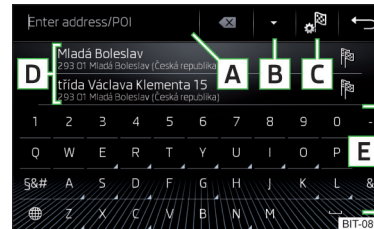
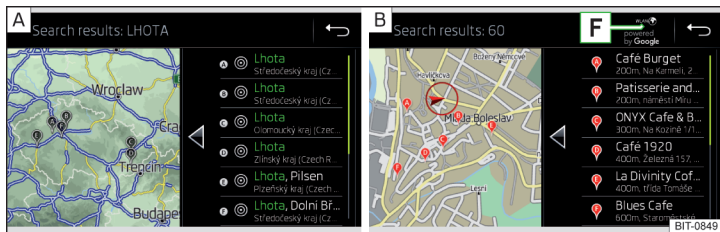

Fig. 216
Fig. 217 List of destinations visited: in the navigation data / online
Function surfaces » Fig. 216 and » Fig. 217
A list of the destinations found is displayed in area **D** » Fig. 216.
- or: Tap the **B** » Fig. 216 function surface.
- 📍 Destinations found in the navigation data » Fig. 217 - **A**.
- 📍 Destinations found online » Fig. 217 - **B**.